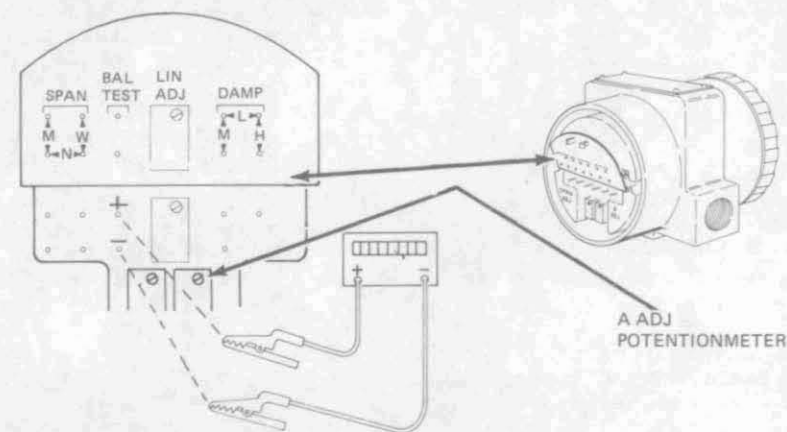

Figure 26
16. Complete A ADJ potentiometer adjustment (Figure 26) as follows:
8. Complete A ADJ potentiometer adjustment (Figure 26) as follows: